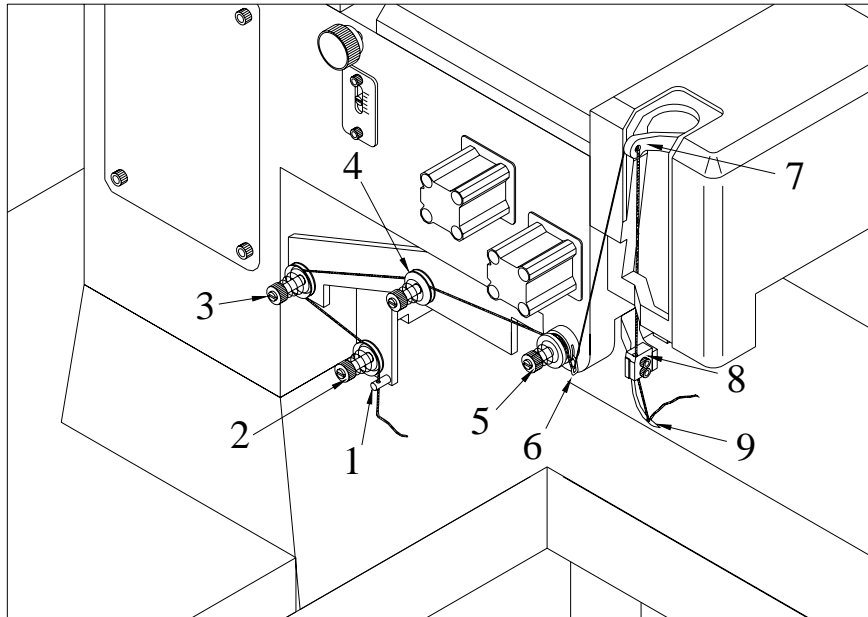

Fig.2
- Threading the needle thread by the path indicated in **Fig.2**
(1) Threading rod (2) Tightener 1 (3) Tightener 2 (4) Gathering tightener
(5) Tighten wheel (6) Take-up spring (7) Take-up lever (8) Clamp (9) Needle
Needle thread tension can be adjusted by turning (2) Tightener 1 (3) Tightener 2 and (5) Tighten wheel. (Fig.2)